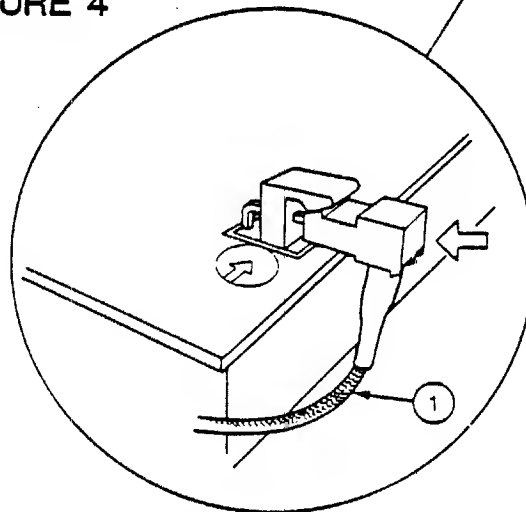

FIGURE 5
1. Attach the LED cable to its connector on the controller PCB (Figure 5). Make sure the LED cable exits down and away from the PCB (Figure 5, #1).